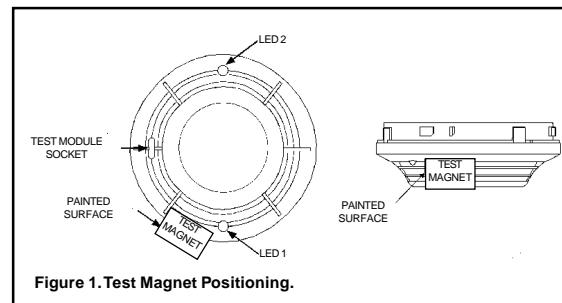

Figure 1. Test Magnet Positioning.
- 1 Test the detector by positioning the test magnet against the detector body approximately 2cm from LED1 in the direction of the metering socket (see Figure 1).